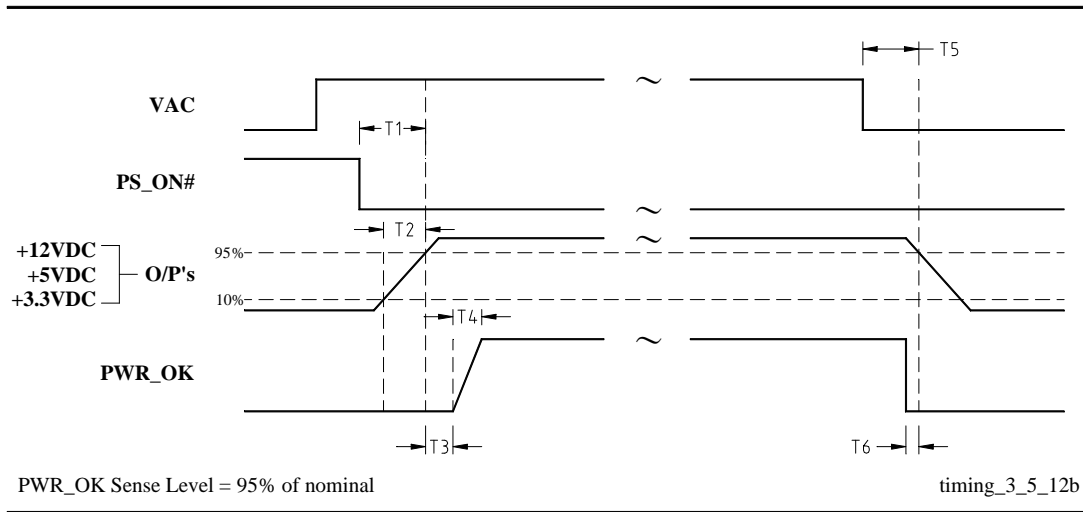

Figure 2. Power Supply Timing Diagram
The timing relationships specified throughout section 4.1~4.5 are shown here in Figure 2 is a reference for signal timing for main power connector signals and rails.
5.1 Power Good Signal (see Figure 2)